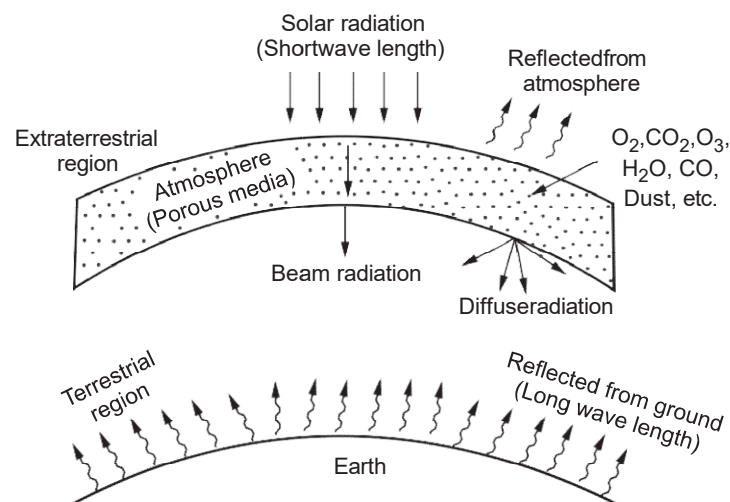

Fig. 2.3.1 Diffuse, Direct, and Total radiation
- All these three diffuse, direct, and total radiation are shown in Fig. 2.3.1.